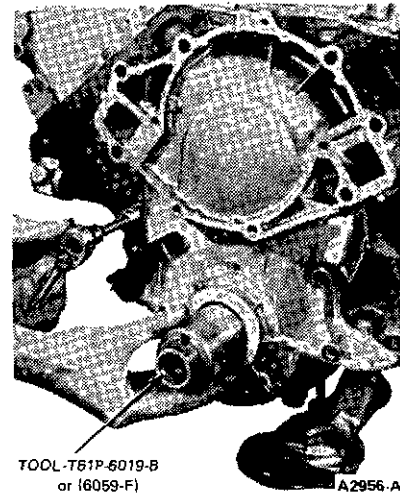

FIG. 47 Aligning Cylinder Front Cover
8. While pushing in on the alignment tool (Figure 47) tighten the oil pan to cover attaching bolts to specifications. Remove alignment tool. Tighten the cover to cylinder block attaching screws.